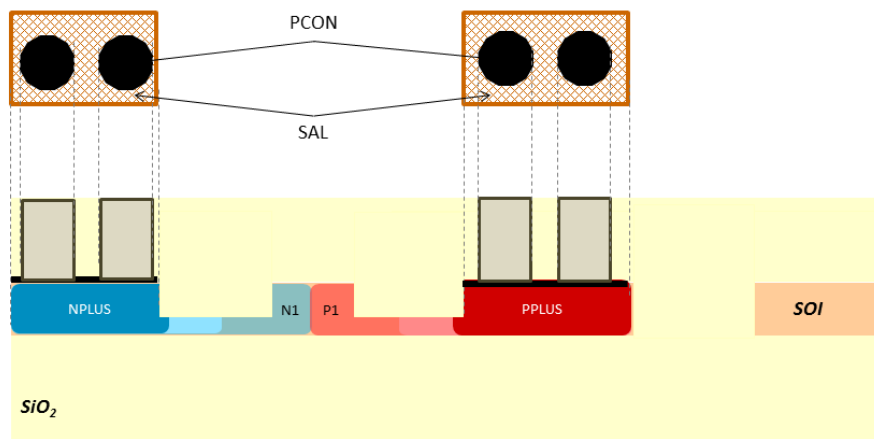

Figure 10: Cross-section and mask layers for silicide (SAL) and contacts (PCON) contact modules.
- Contacting (SAL, PCON): Figure 10.